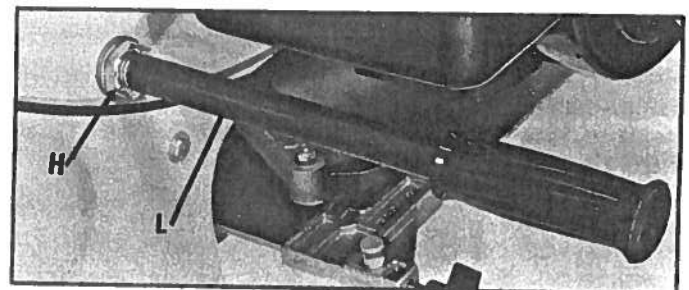

Fig. 7
8. Thread the handle (L) Fig. 7, into the housing as tightly as possible. Then securely tighten locknut (H) against the housing.